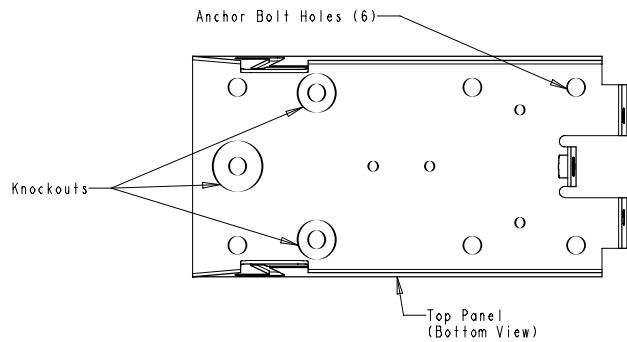

Figure 4: Bolt Holes and Knockouts
- Decide how the wiring will be routed to the unit. Two knockouts for 1/2 inch conduit and one knockout for 3/4 inch conduit are provided. See figure 4.